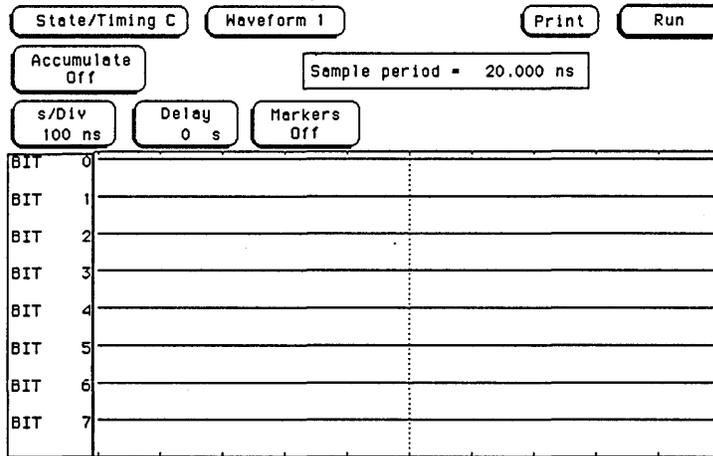

Figure 3-42. Waveform Screen
6. Press **Run**, then drag finger to **Single**. Data displayed on **Waveform** screen will all be high for the pod under test as in figure 3-42.
11. Touch **Run**. Data displayed on the **Waveform** screen will be all high for the pod under test as in previous figure 3-42.
16. Touch **Run**. Data displayed in the **Waveform** screen will be all high for pod under test as in figure 3-42.